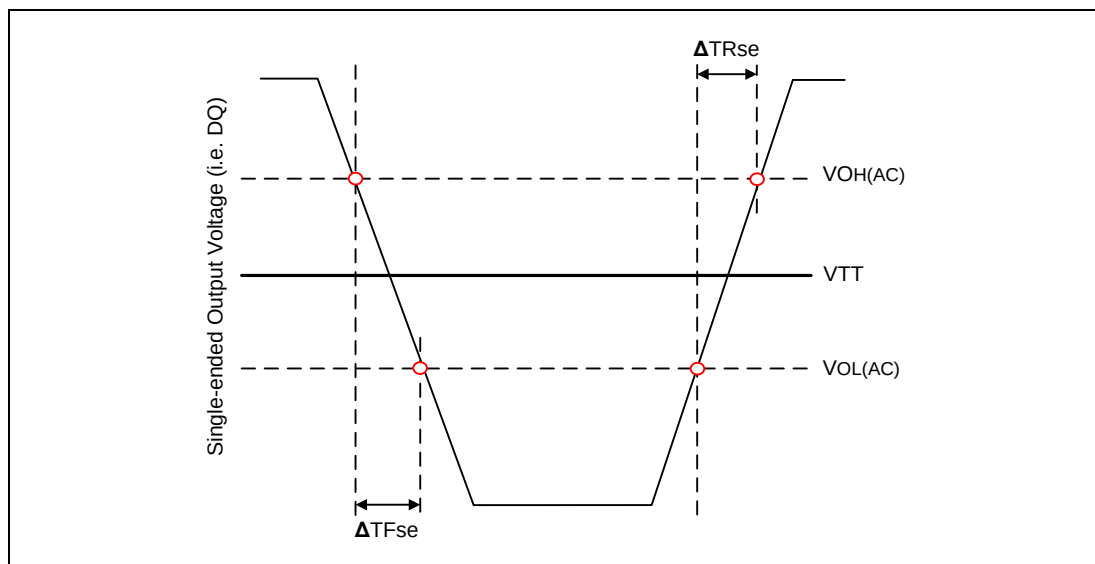

**Figure 94 –Single-ended Output Slew Rate Definition**
With the reference load for timing measurements, output slew rate for falling and rising edges is defined and measured between VOL(AC) and VOH(AC) for single ended signals as shown in Table 28 and Figure 94.